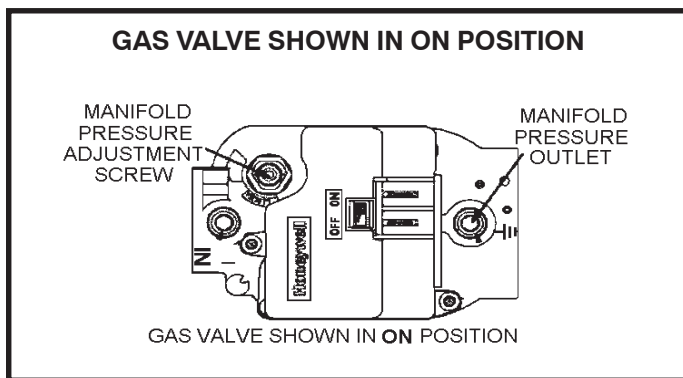

Figure 55
Gas Valve Operation (Figure 55)
6. Move gas valve switch to **OFF**. See Figure 55.
8. Move gas valve switch to **ON**. See Figure 55.